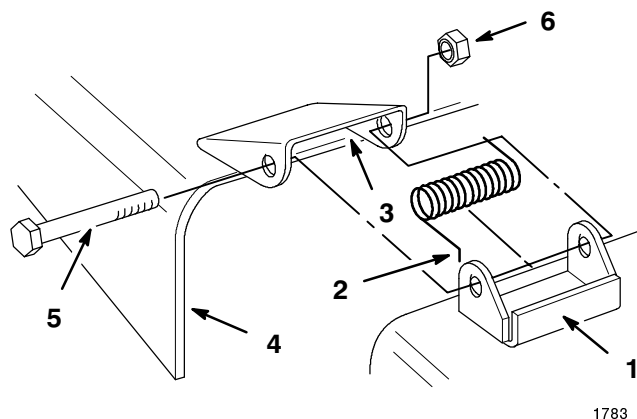

Figure 2
1. Place the springs into the brackets on the mower with the hooked ends over the raised back (Fig. 2).
2. Align the grass deflector with the holes in the brackets and the spring straight ends in the space under the hinge and above the deflector (Fig. 2).
3. Secure the deflector to the bracket with bolts through grass deflector, springs, and brackets. Secure with lock nuts (Fig. 2).